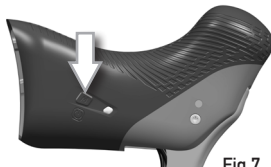

Fig.7
2) Keep the MODE buttons (Fig.7) of the Ergopower controls pressed down at the same time for 5 seconds until the LEDs light up in a solid PINK colour.